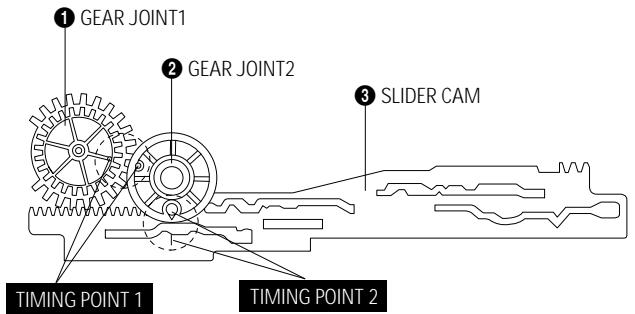

Fig. 4-17 Gear Joint 1,2 Assembly
- 1) Be sure to align dot mark of Gear Joint 1 ① with dot mark of Gear Joint 2 ② as shown Fig 4-17. (Refer to Timing point1)
- 2) Confirm the Timing Point 2 of the Gear Joint 2 ② and Slider Cam ③.